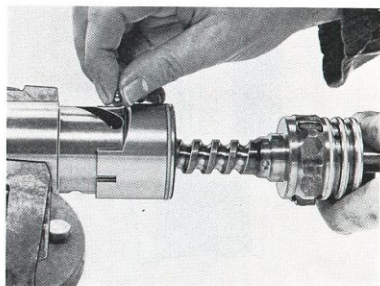
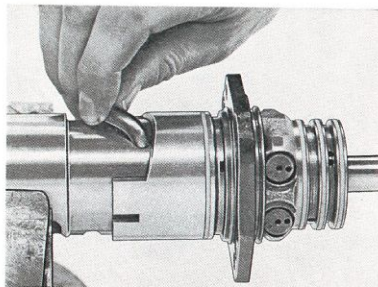

Fig. 6-92. Inserting balls
Fig. 6-93. Fitting pipe halves
- Clamp the piston between soft jaws in a vice. Slide the sleeve (24) onto the worm. Insert the worm far enough into the front piston bore that its top comes opposite the first recess for the pipe half. Fill the bore (Fig. 6-92) with the balls. Screw the worm further down by hand so that the balls are carried up to the rear piston for the recirculating pipe. When 16 balls have been inserted, the first ball should appear at the other recess. Thereafter insert the remaining 7 balls. The balls should be greased in order to facilitate installation. Place the halves together and install them, see Fig. 6-93.